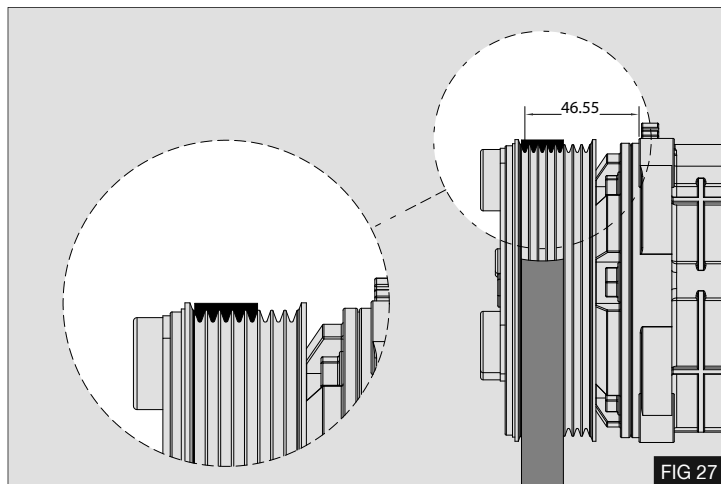

FIG 27
2. Position the belt in compressor front grooves. - Fig 27